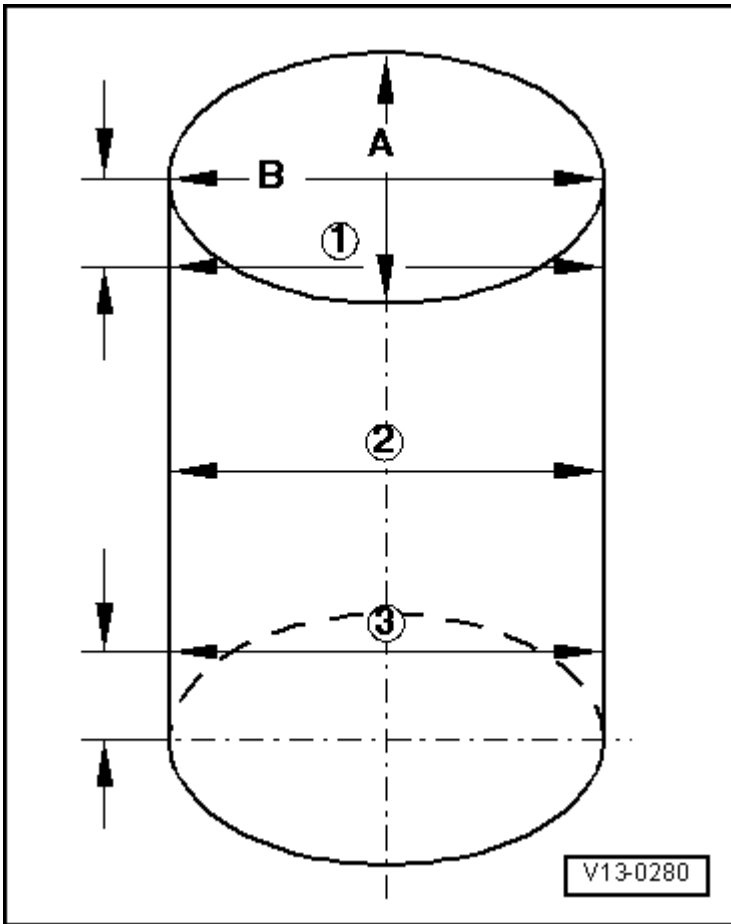

Fig. 17: Identifying Check Of Cylinder Bores
- Cylinder bore checking, refer to **Fig. 17**.